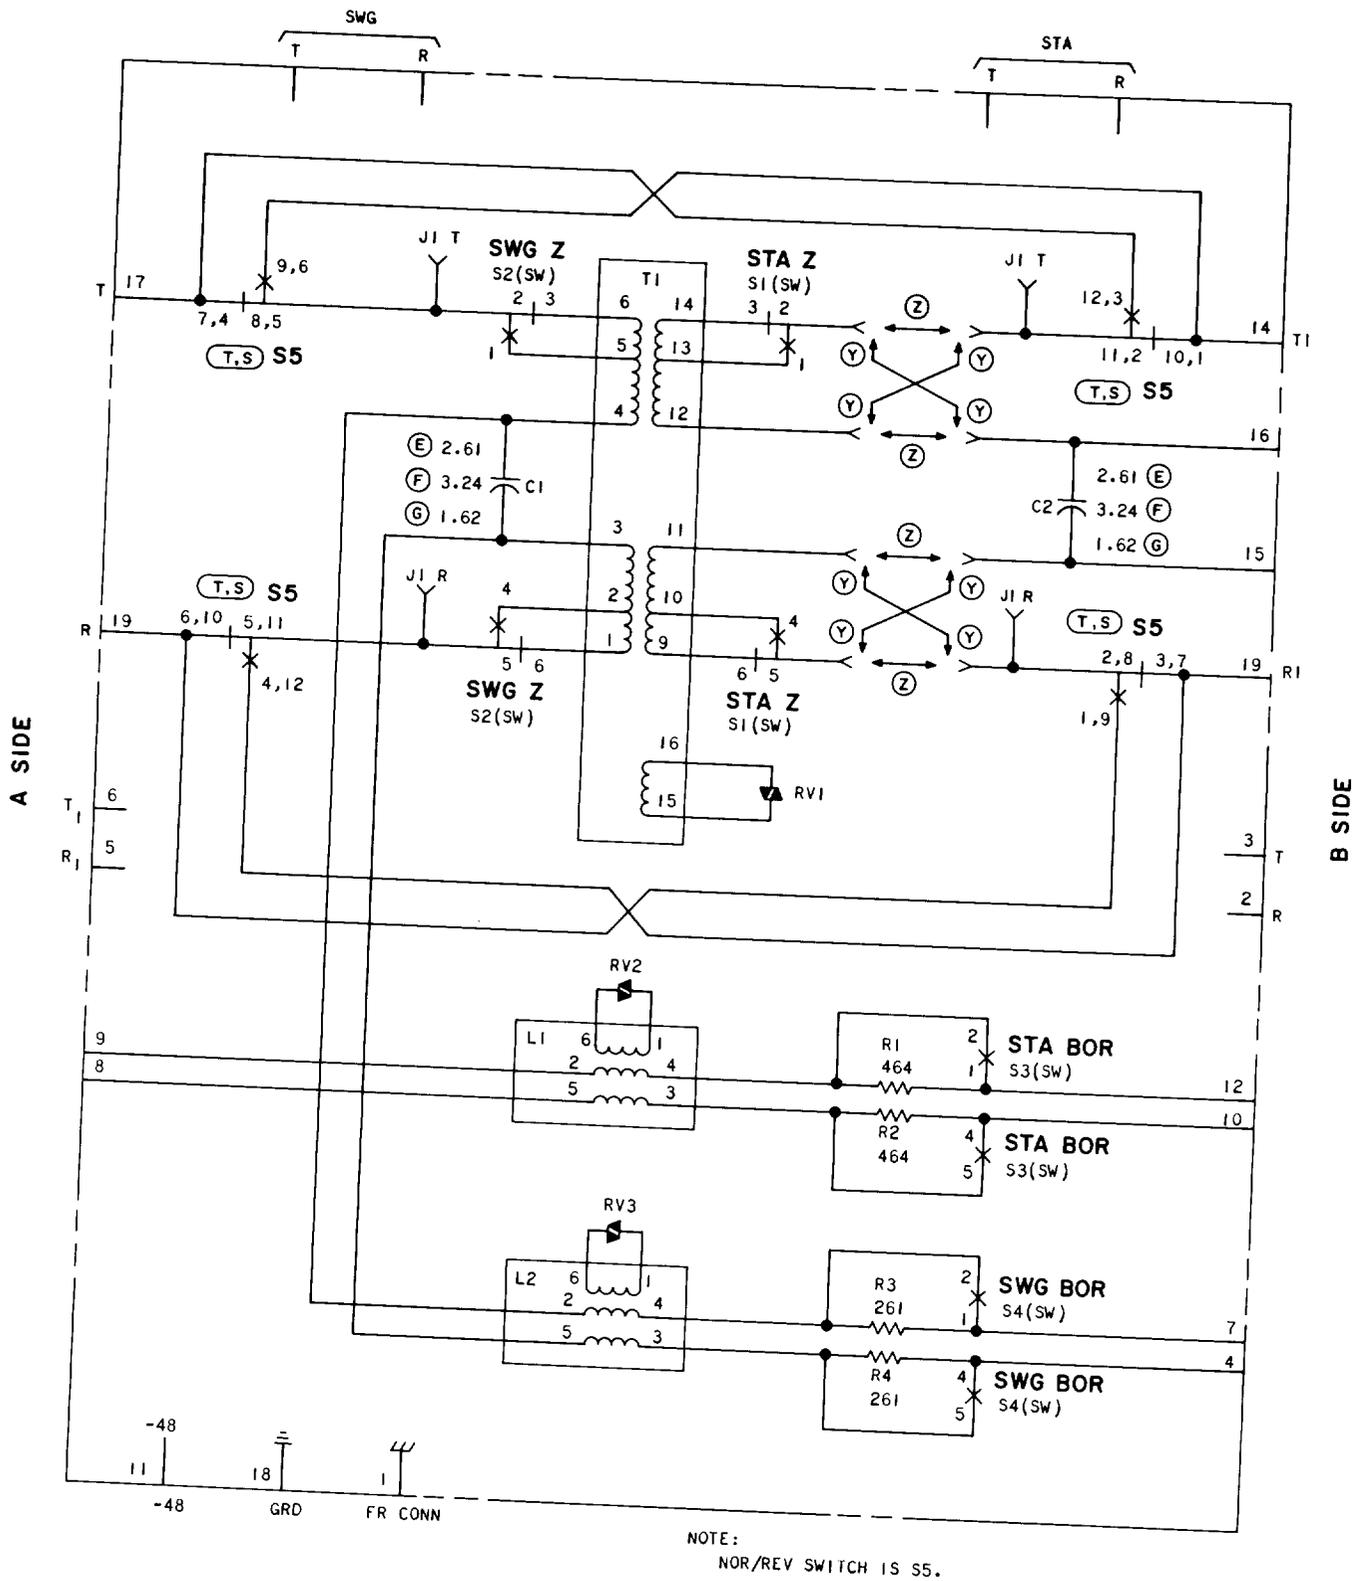

Fig. 2—Schematic of J99343BA 2-Wire Transmission Unit
2.02 The J99343BA is a passive transformer-coupled device with selectable input and output impedances (600 or 900 ohms). A capacitor in series with the transformer windings provides access to the A and B leads on both sides of the unit. Figure 2 is a schematic diagram of the J99343BA. The A-side impedance is selected by a slide switch on the front panel (SWG Z) while the B-side impedance switch is designated STA Z. Buildout resistance (BOR) is available to limit the current in the signaling path. A switch designated SWG BOR is for the A-side A and B leads, and a switch designated STA BOR controls the B-side A and B leads. A switch on the front panel designated NOR/REV controls the connection of the TR (A-side) and T1R1 (B-side) leads to the transformer windings. In the normal mode, the TR leads are connected to the A-side of the transformer and the associated A and B leads connect to the A-side of the signaling unit. In the reverse mode, the T1R1 leads are connected to the A-side of the transformer and the associated A and B leads are connected to the A-side of the signaling unit. This results in reversing the signaling leads to the signaling unit.